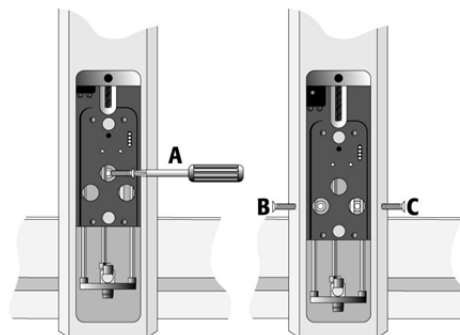

Figure 12. Inserting the Injection Unit Mounting Torx Screws
4. Place one of the screws onto the end of the supplied Torx driver. Slide the clear plastic cover on the Injection Unit all the way to the top. Locate the three large holes in the black anodized frame attached to the Z-axis inside the Injection Unit. Slide the frame upwards until the top hole is centered on the top threaded hole at the end of the Y-axis. Insert and securely tighten the Torx screw A (see Fig. 12);